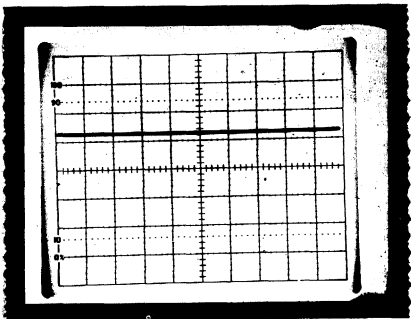

FIGURE 2
- B. Without photocell - while observing Jack 9, adjust the pot on the R401 until the pulses are 36 msec apart for 60 hz and 42 msec apart for 50 hz. Reference Figure 2, go to step 5.